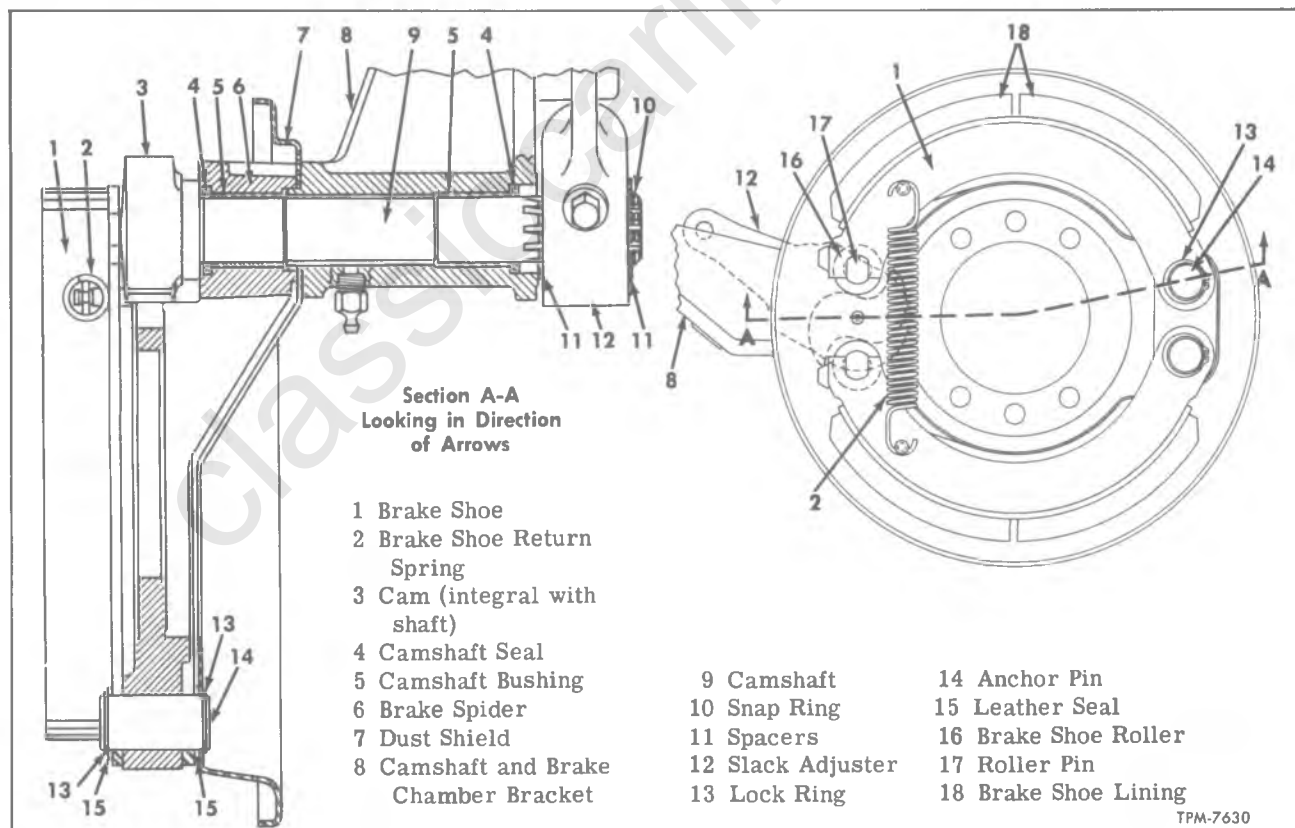

Figure 22—Rear Brake Assembly
Brake assembly shown in figure 22 is a typical Wagner brake assembly.
Slack adjuster, mounted on splined end of camshaft, is held in place by a lock ring. A spacer is used on each side of slack adjuster. On the brake assembly shown in figure 22, the two spacers (11) are the same; on some models equipped with offset slack adjusters, the inner spacer is thicker than the outer spacer. Whenever camshaft has been removed, coat bushing surfaces with S17 Special Lubricant or equivalent before installing. After installation, apply lubricant as directed in LUBRICATION (SEC. 0) in this manual, and adjust brakes as directed under "Brake Adjustments."